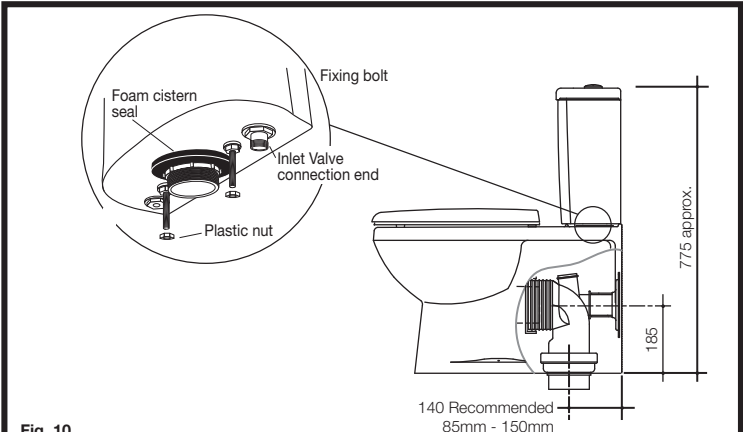

Fig. 10
- 1- Ensure the foam seal at base of cistern is securely attached to cistern base, as detailed in **Fig. 10**.